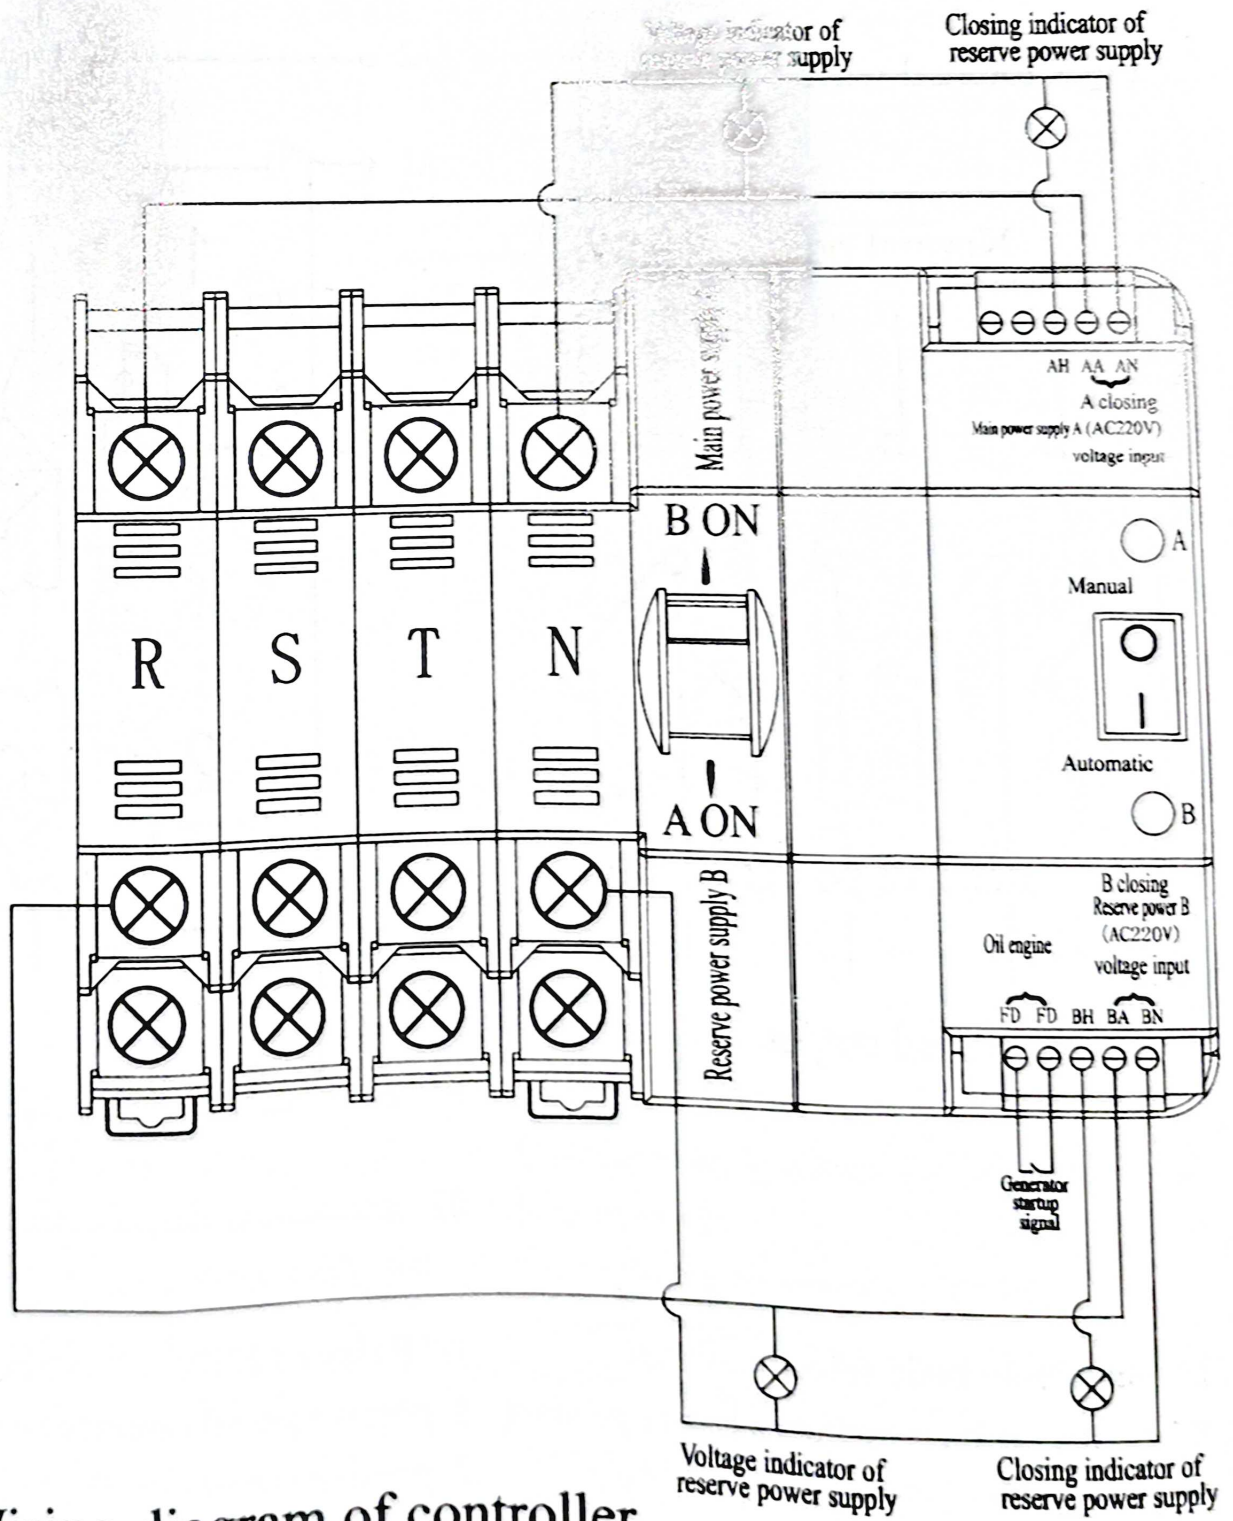

Fig.3 Wiring diagram of controller
#### **7. Wing diagram (see Fig.2, Fig.3)**
7. Wiring diagram (see figure 2, figure 3)